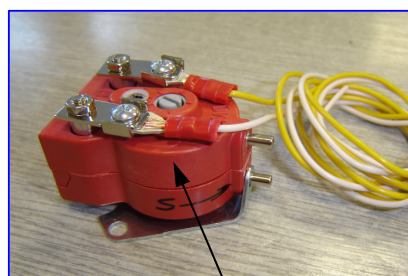

FIG.2
5.A1 Detection of sensitive edge is too LIGHT requires adjustment as shown in Fig.2.